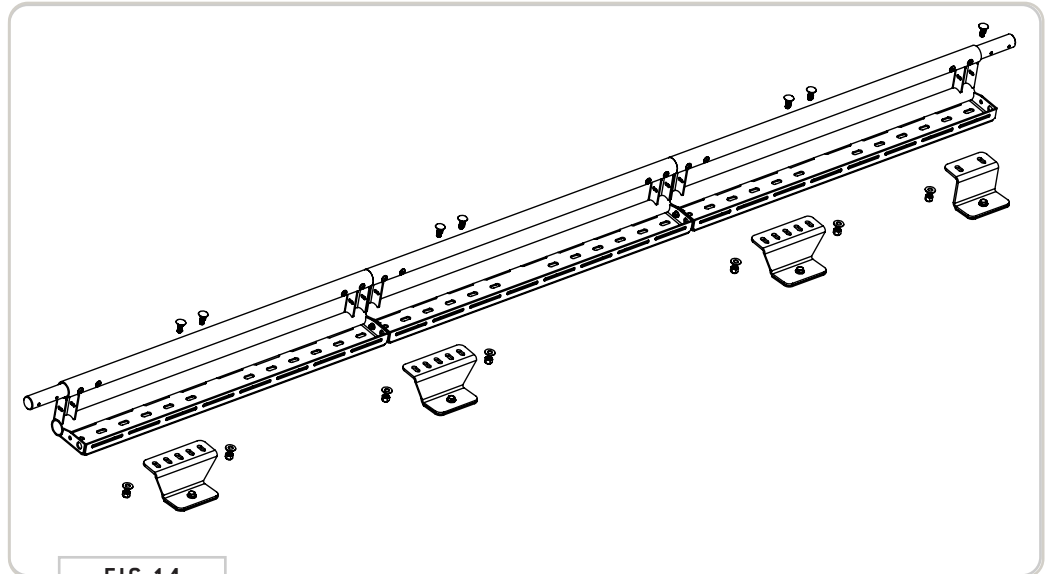

FIG 14
5.1 Mount Side Rails to Van Rails: With assistance, lift the **Side Rail Assembly** onto the roof. Align the **Side Rail Assembly** with the mounting holes of the **Foot Brackets** and secure loosely using **3/8-16" Carriage Bolts, Flat Washers and Nylon Locknuts** as shown in FIG 14+15.